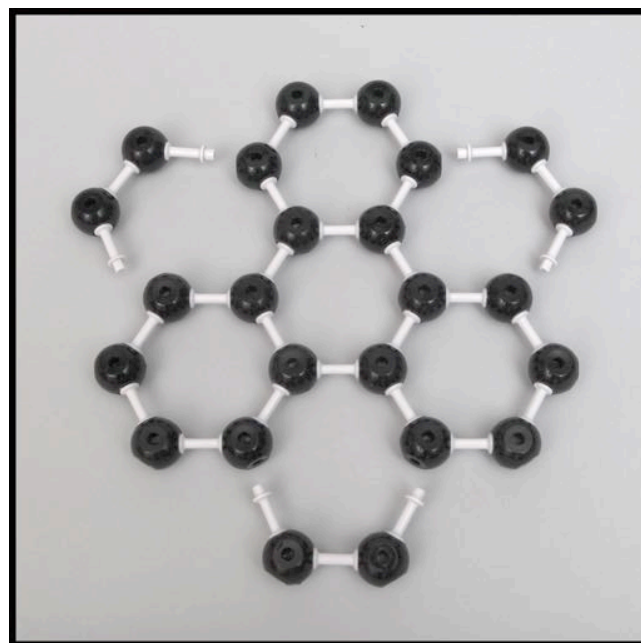

Fig 6 Enlarging the layer with three more rings.
3. Construct three more hexagons around the middle hexagon with two of the 3-hole carbon atom centers and three 27 mm tan bonds as shown in Fig 6.